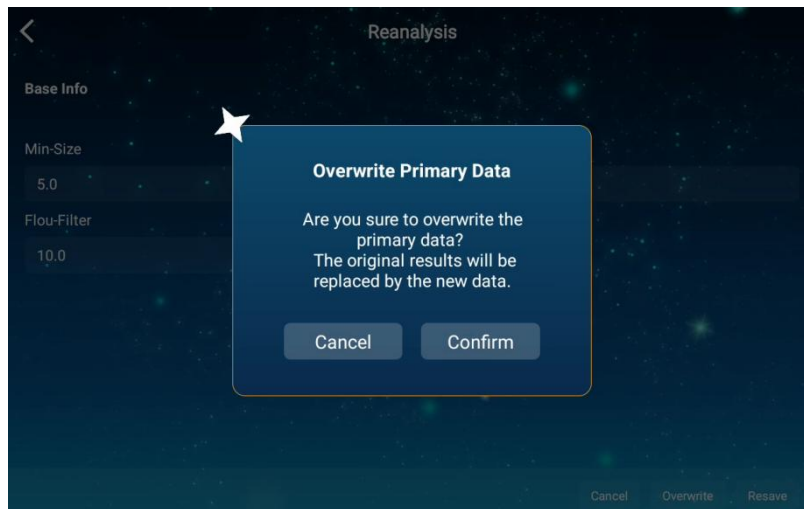

Fig. 2.29 Prompt when selecting "Overwrite Primary Data"
The reanalysis operation is dependent on adjustment under seven (7) single parameters, containing **Prob**, **Nms**, **Min-Size**, **Max-Size**, **Min-Ave-Gray**, **Max-Ave-Gray**, and **Thres**, which the user can vary. The detailed information of these parameters will be shown in the content of "Editing" in the chapter 2.5. In the highlighted menu bar at the bottom of the window, the user has the option to "Cancel" the re-analysis, override the "Primary Data" using changed parameter settings, or "Save as new data" by generating a new result file; If he selects "Overwrite Primary Data", the following prompt (**Fig. 2.29**) will display.